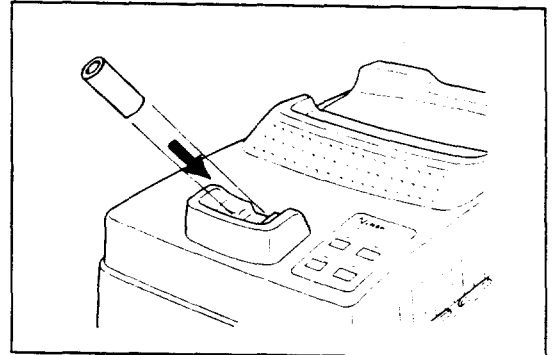

Figure 4-3
- (12) Measure the model eye which was provided with the unit. Make sure that the model eye and measuring window are clean. If they are tarnished, carefully, clean them referring to sections "(4) Cleaning the measuring window" and "(5) Model eye" (page 44) in "8. Maintenance".
- ① Place the model eye on the model eye mount on the station (see Figure 4-3).